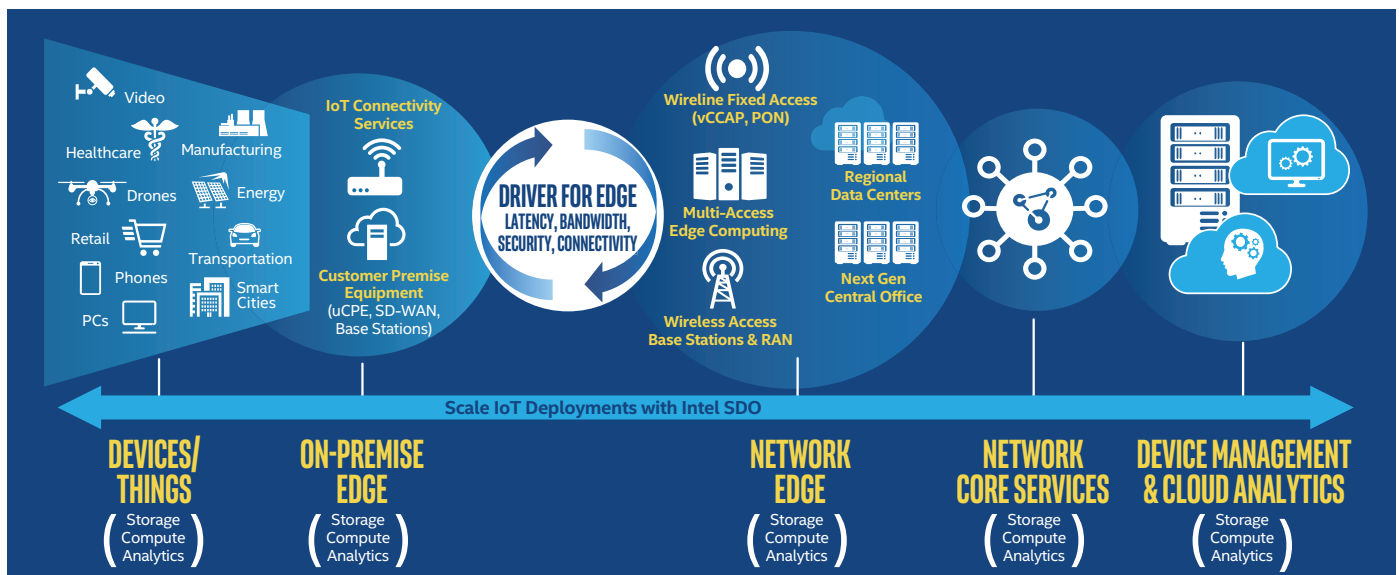

Figure 1. Edge to Cloud IoT Deployment
A typical IoT implementation requires customers to connect a wide variety of devices to a device management system (DMS), which runs either on-premise or in the cloud. DMS systems are managed by operational technology (OT), and interface with information technology (IT). Together, these technologies manage device security, access control, networking and communications, and IoT analytics. (see Figure 1). All components must be deployed together for an IoT deployment to begin processing data that derives value for the business.